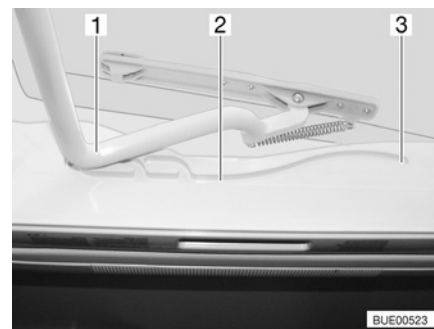

Fig. 37 Heki skylight, guide
- Pull the bar (Fig. 37,1) in the guides (Fig. 37,2) to the rearmost position (Fig. 37,3).
- Use both hands to push the bar (Fig. 37,1) slightly upwards.
- Pull the bar in the guides (Fig. 37,2) to the desired position.